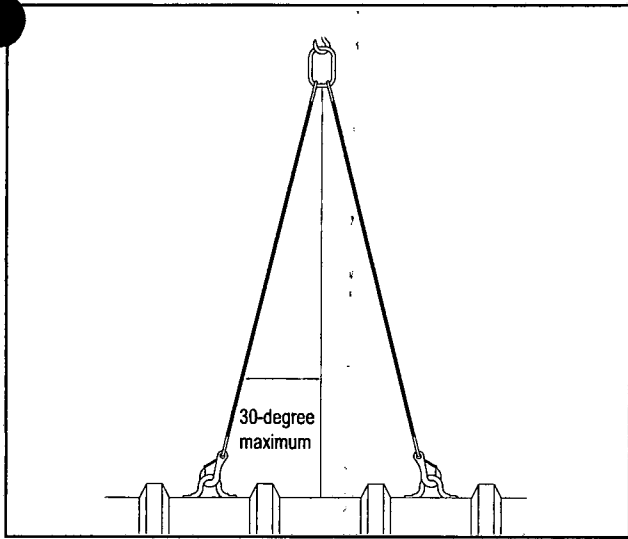
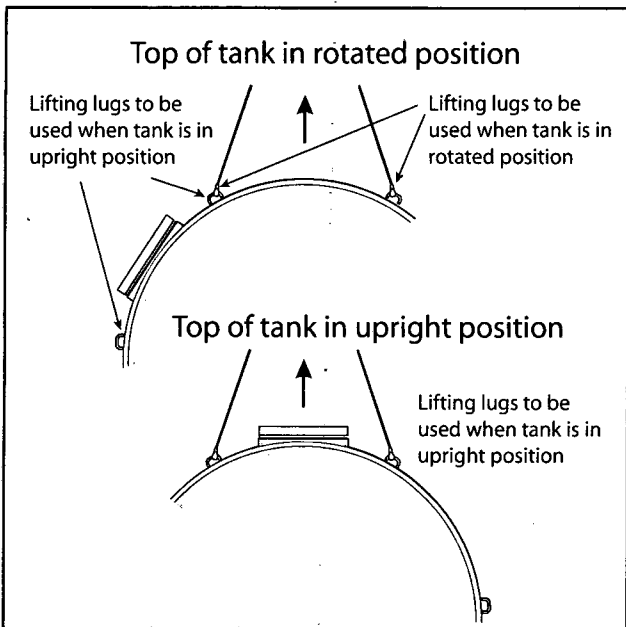

FIGURE 2-1
FIGURE 2-2
2.2.3. When hoisting the tank, follow these instructions—see *FIGURE 2-1* and *FIGURE 2-2*:
2.2.3.2. When using multiple lifting lugs, the angle of the lifting sling should never exceed 30 degrees—see FIGURE 2-1.
2.2.3.3. When the tank is not rotated (the tank is upright), use all lifting lugs to unload and install the tank. See FIGURE 2-2.
2.2.3.4. Some tanks are rotated on the truck for shipping purposes. These tanks have extra lifting lug(s) to aid in the loading/unloading process. See FIGURE 2-2.
2.2.3.4.2. To install the tank, carefully rotate the tank to its upright position and then use all lifting lugs situated on top of the tank in its upright position. See FIGURE 2-2.